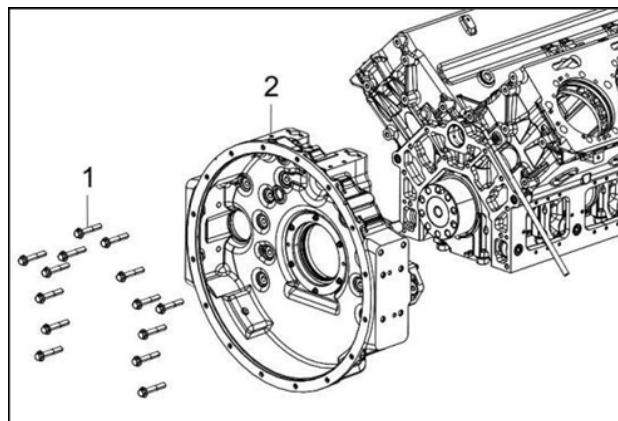

Figure 139.
5. Install the flywheel housing (Figure 139, item 2) to the rear end of engine block by using guide rod.
6. Apply Loctite 242 sealant coated at the threads of the flywheel housing bolts (Figure 139, item 1).